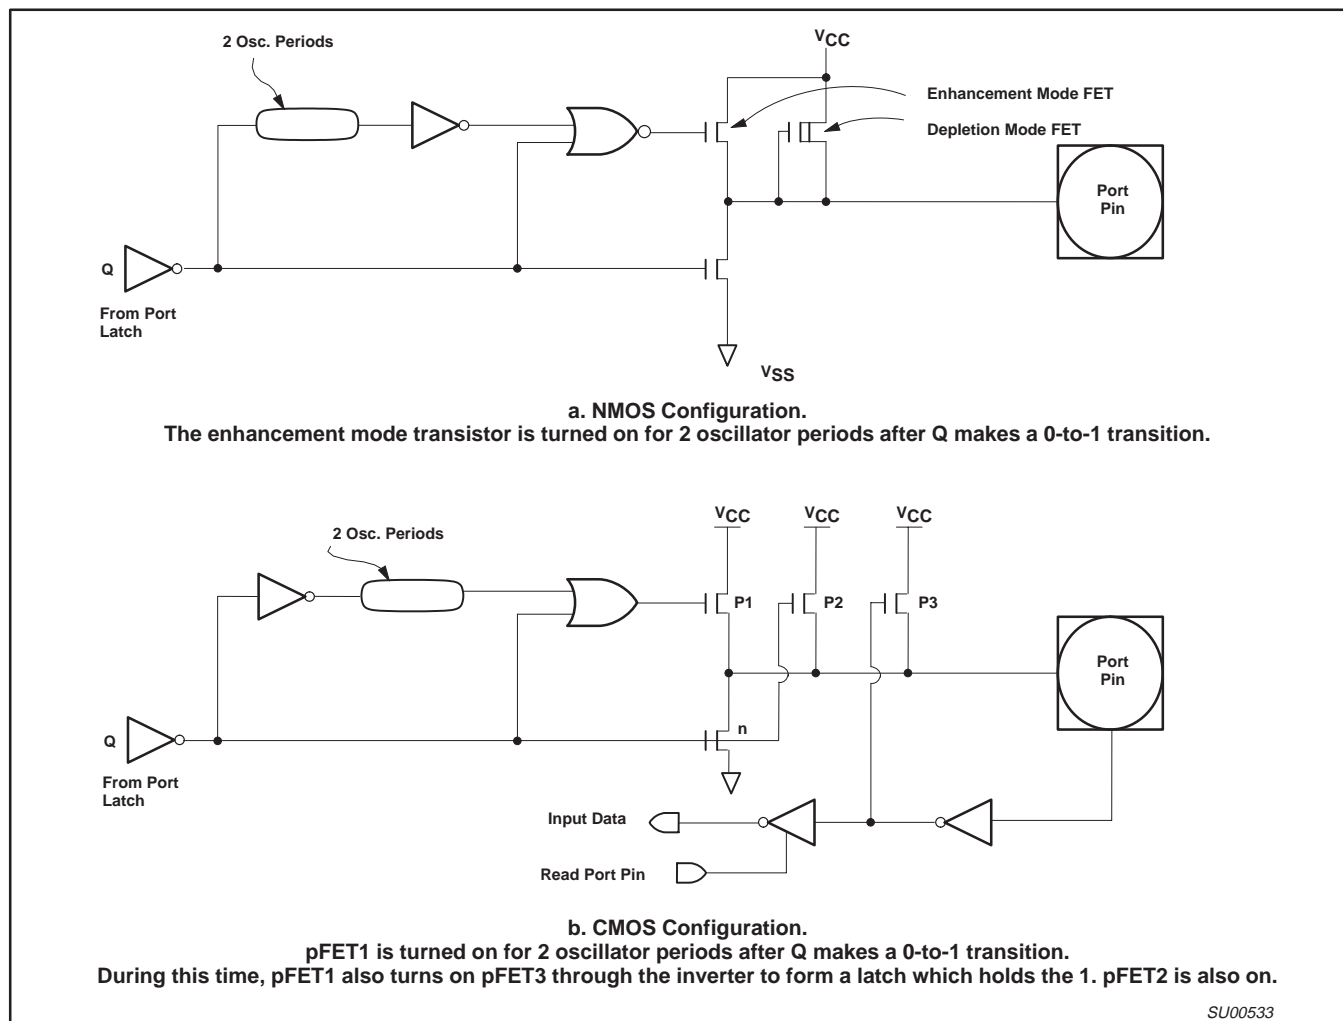

Figure 5. Ports 1 and 3 NMOS and CMOS Internal Pullup Configurations
If the change requires a 0-to-1 transition in Port 1, 2, or 3, an additional pullup is turned on during S1P1 and S1P2 of the cycle in which the transition occurs. This is done to increase the transition speed. The extra pullup can source about 100 times the current that the normal pullup can. It should be noted that the internal pullups are field-effect transistors, not linear resistors. The pullup arrangements are shown in Figure 5.
*See Figure 5 for details of the internal pullup.
pFET1 in Figure 5 is the transistor that is turned on for 2 oscillator periods after a 0-to-1 transition in the port latch. While it's on, it turns on pFET3 (a weak pullup), through the inverter. This inverter and pFET3 form a latch which holds the 1.